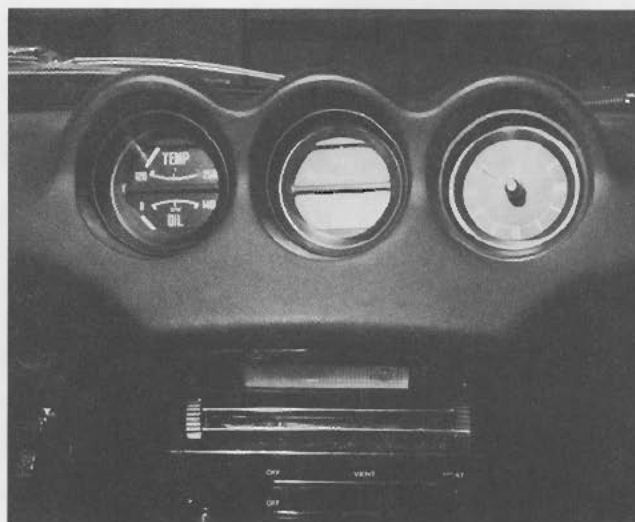

Figure IV-1. Center Group Instruments
1. Access to the center group instruments (see Figure IV-1) is easily obtained by removing the glove compartment door and liner as follows: